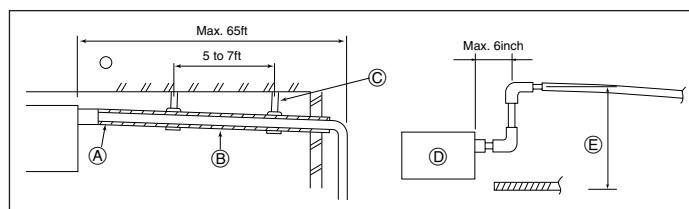

Fig. 5-1
5.1. Drainage piping work (Fig. 5-1)
- Refer to the Fig. 5-1 for piping work.